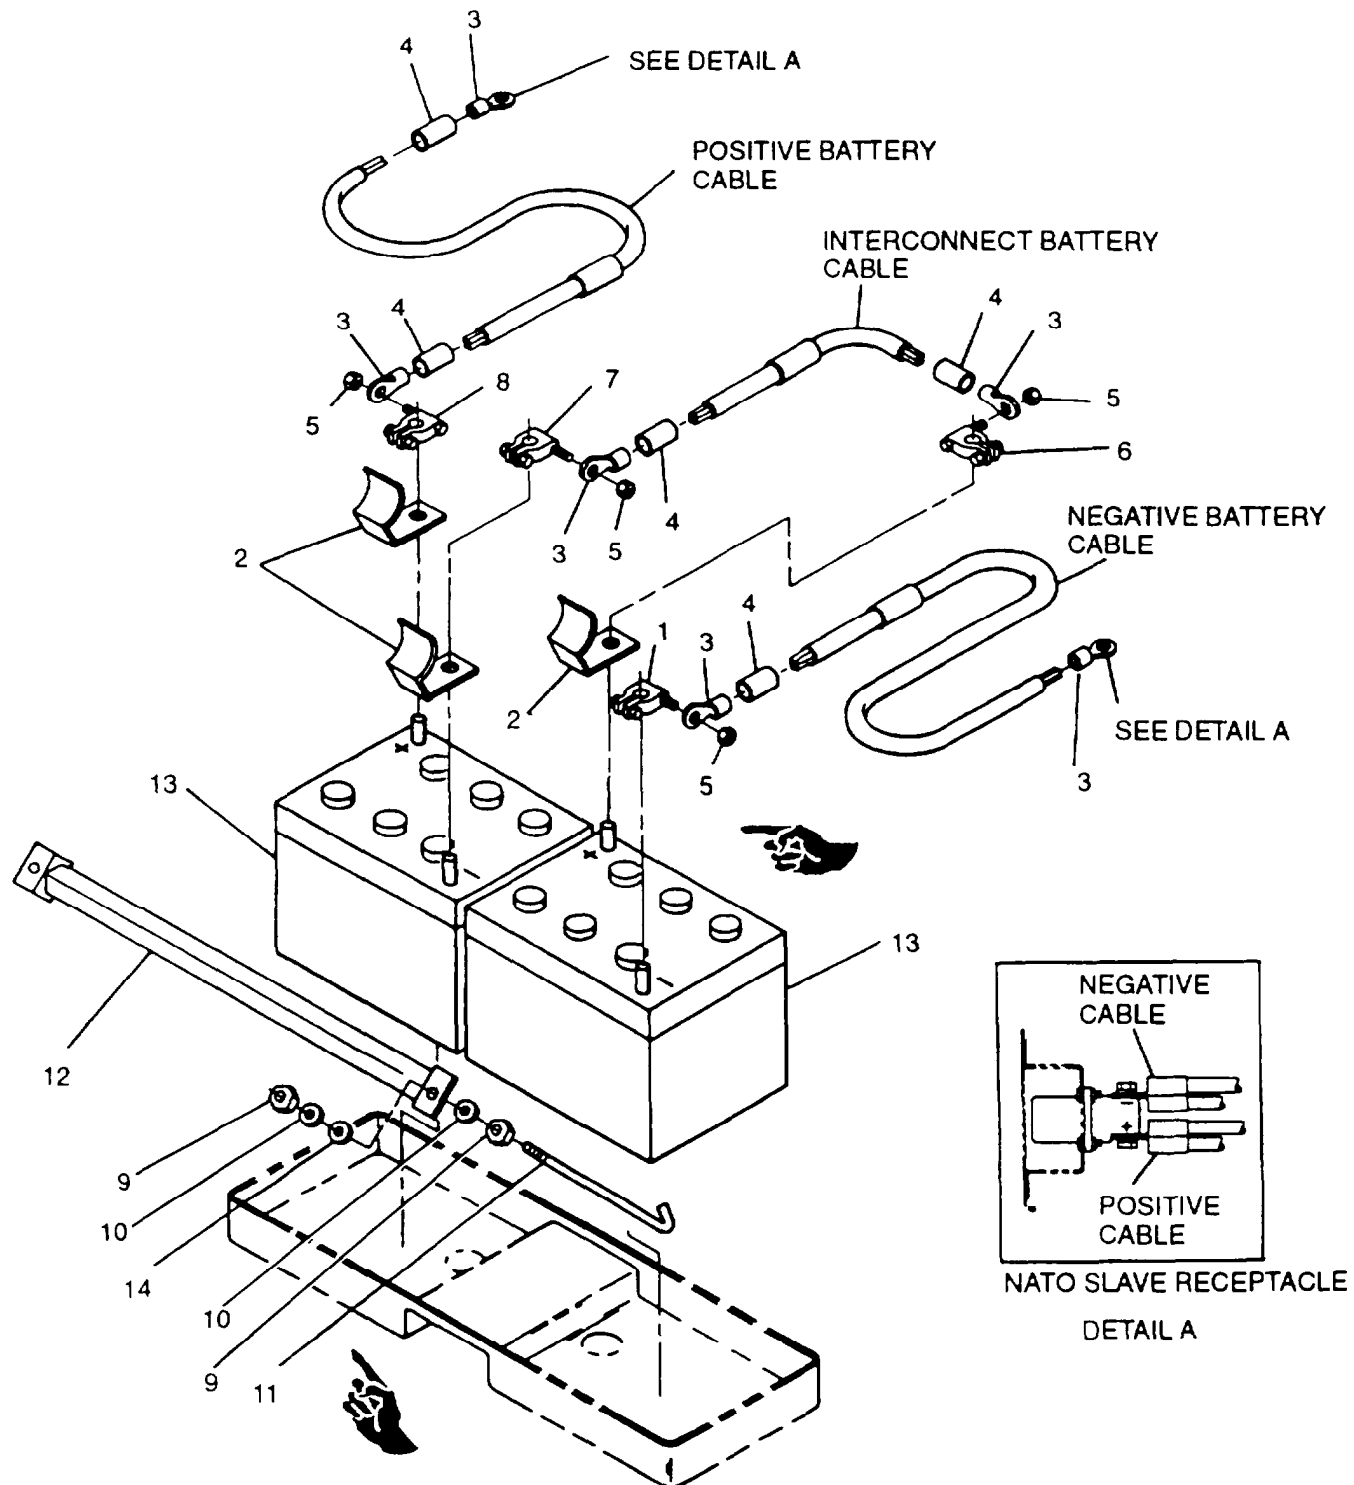

FIGURE 2-3. Batteries and Cables
- c. Disconnect negative battery cable terminal lug (1, FIGURE 2-3) from battery.
- d. Disconnect and remove applicable cable assembly as shown in FIGURE 2-3 or FIGURE 2-4.
- a. Remove terminal cover(s) (2, FIGURE 2-3) from battery post(s), if applicable.
- a. Remove nut(s) (5, FIGURE 2-3) and battery cable terminal lug(s), as necessary.
- b. Remove broken or damaged terminal (3, FIGURE 2-3 or 2-4) from cable assembly.
- c. Slide new shrinkable tubing (4, FIGURE 2-3 OR 2-4) OVER CABLE END.
- d. Install terminal (3) to cable end as described in Appendix D.
- e. Heat shrinkable tubing (4) with heat gun until secure.
- f. Install battery cable terminal lug(s) with nuts(s) (5, FIGURE 2-3), as necessary.
- a. Connect negative battery cable terminal lug (1, FIGURE 2-3) to battery.
- c. Disconnect negative battery cable terminal lug (1, FIGURE 2-3).
- a. Remove terminal covers (2, FIGURE 2-3).
- c. Install terminal covers (2) on batteries (13)
- a. Position batteries (13, FIGURE 2-3) in generator set. Ensure that batteries are serviced and fully charged.
- b. Apply general purpose grease (Item 9, Appendix C) to battery posts and cable terminal lugs (1), (6), (7), and (8).
- c. Install hook bolts (11) and retaining bar (12) with lockwashers (14) washers (IO), and nuts (9).